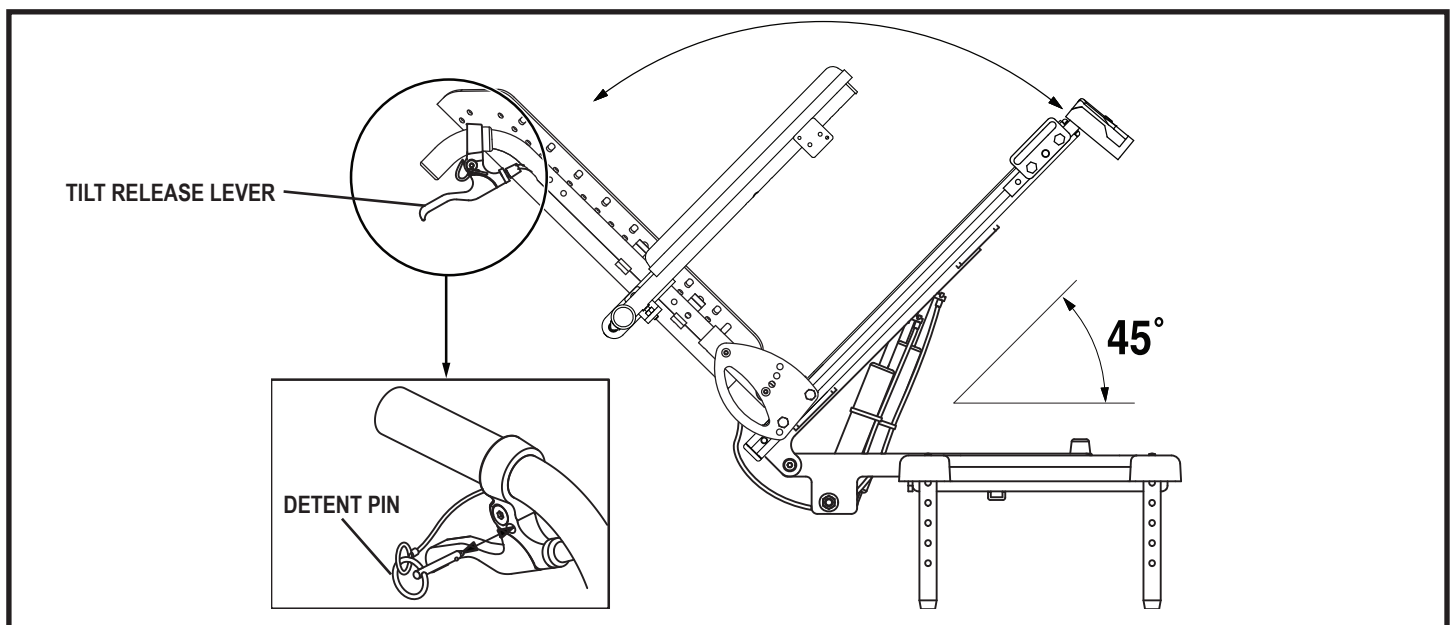

Figure 37. Synergy Manual Tilt Option
1. Remove the detent pin from the tilt release lever. **See figure 37.**